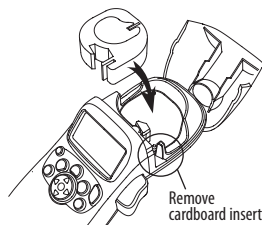

Figure 3
2. Remove the protective cardboard insert from label exit slot. See Figure 3.